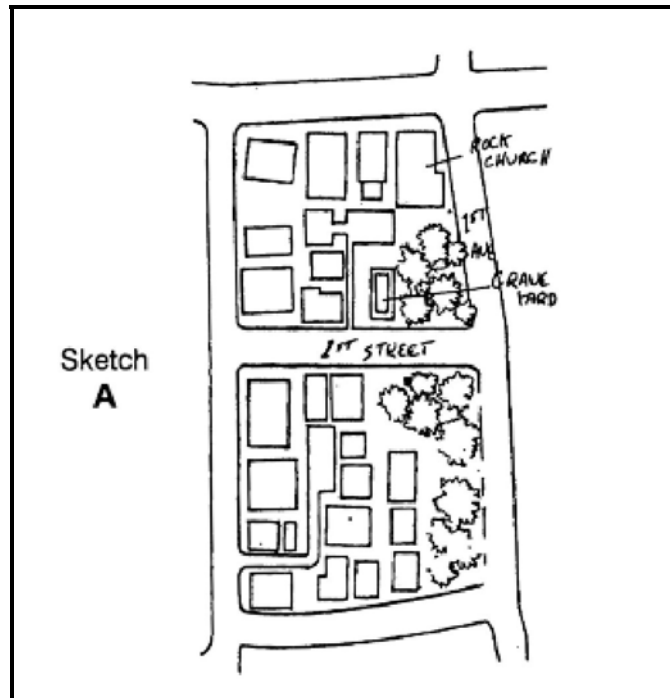

Figure 18-6. Sketch A. Route from immediate reference point to final reference point.
- Sketches and diagrams (see Figures 18-6 and 18-7).